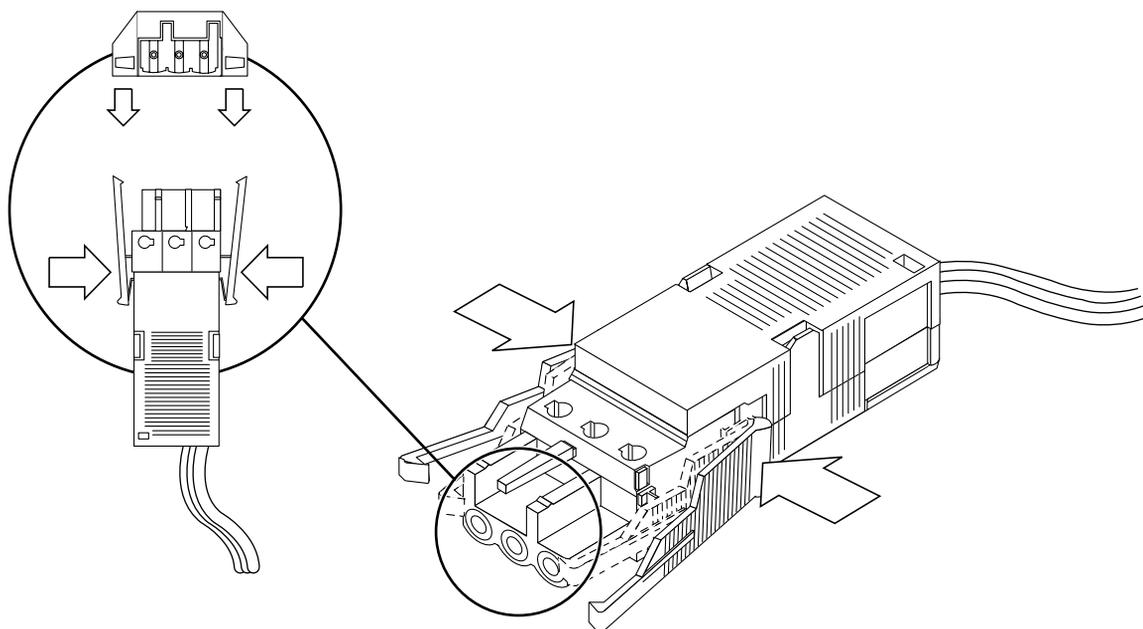

FIGURE 3-27 Disconnecting the DC Input Power Cable From the DC Connector
- Squeeze the two tabs on the sides of the DC input power cable and gently disconnect the DC input power cable from the DC power supply (FIGURE 3-27).